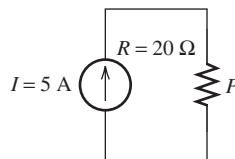

FIGURE P2.52 Circuit for Problem 2.52.
2.52 (A)* Find the power, P , dissipated by the 20- Ω resistor in Figure P2.52.